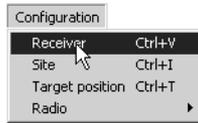

Figure 2-21. Configuration->Receiver
3. Click **Configuration->Receiver** (Figure 2-21).